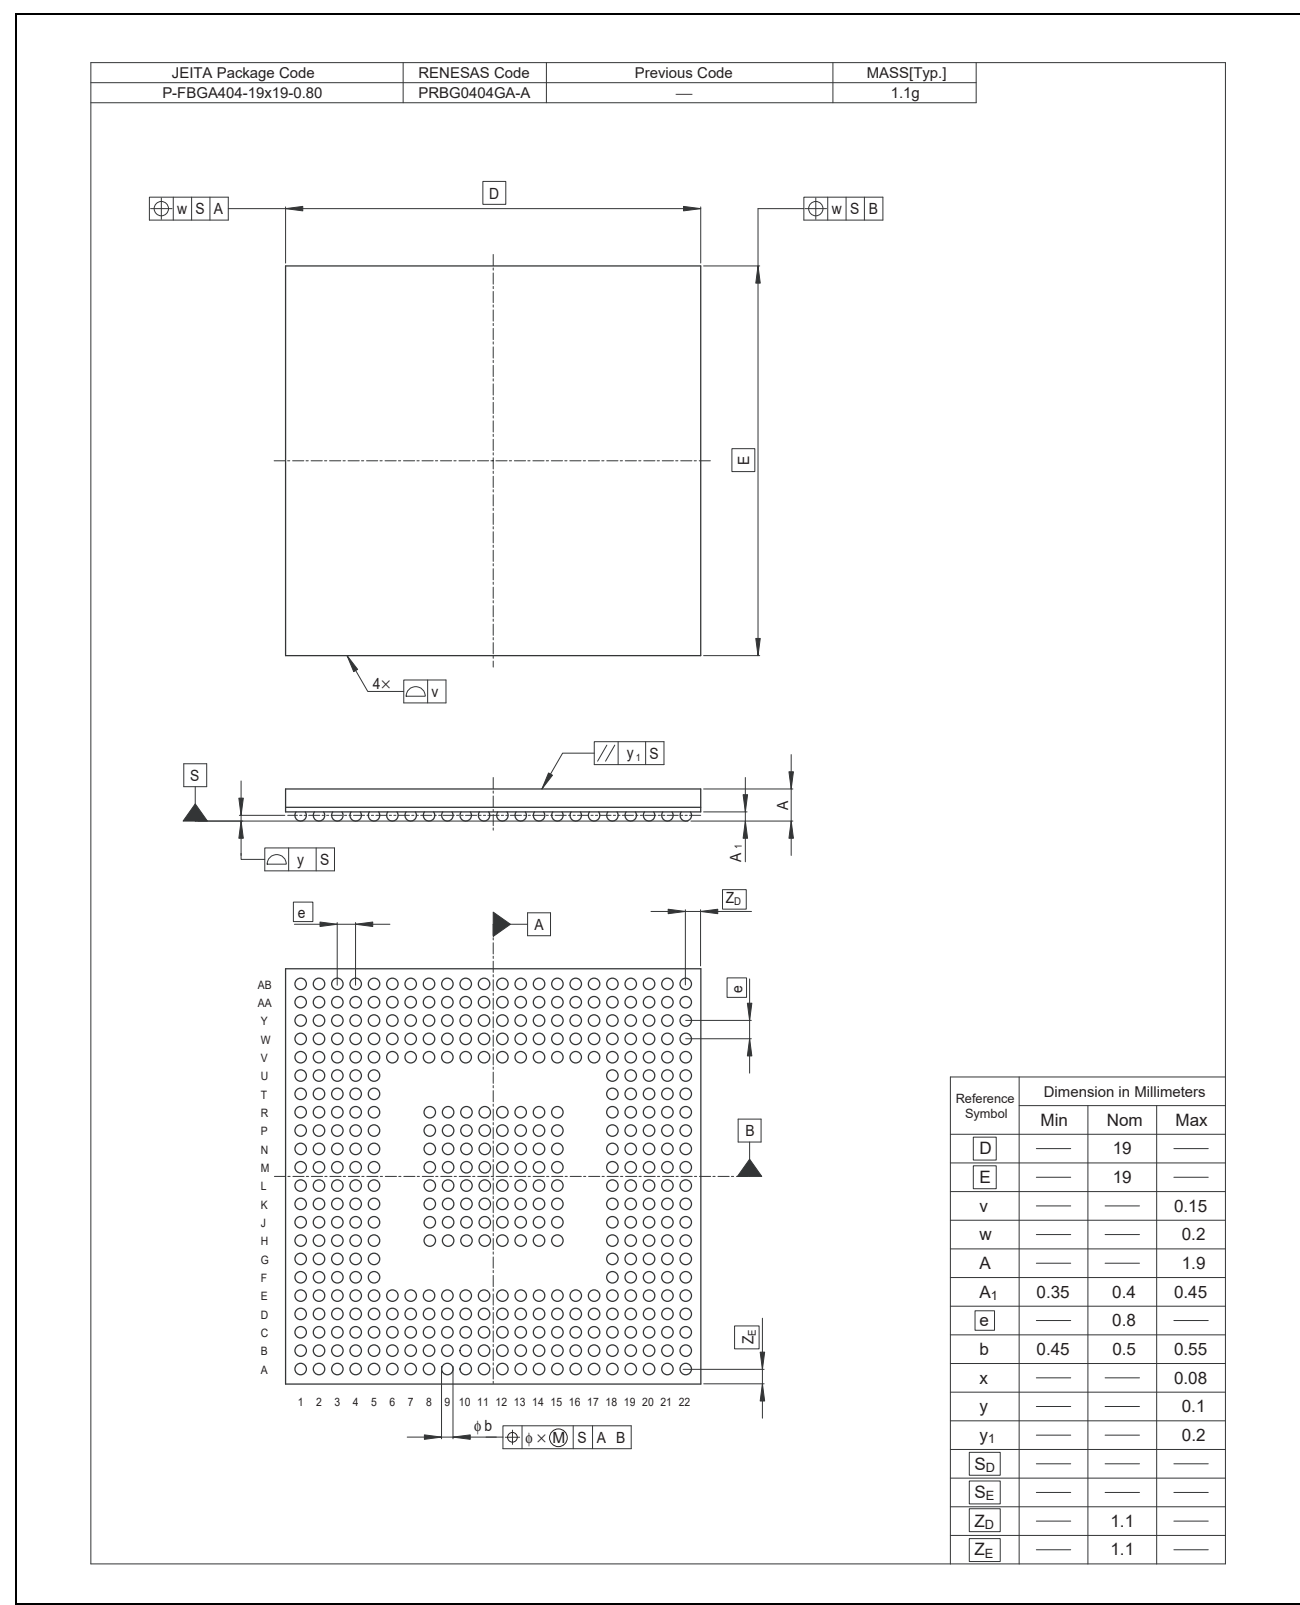

Figure 4.5 FBGA (404pin) outline
- Figure 4.5 shows FBGA (404pin) outline.